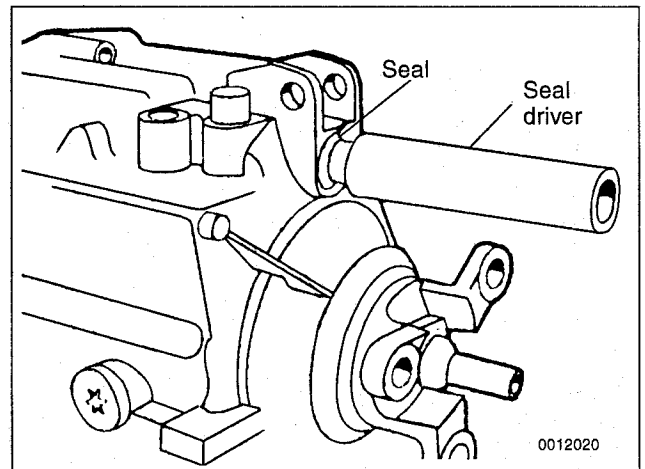

Fig. 4. Selector shaft seal being installed.
7. Coat new seal with transmission fluid. Drive new seal in flush with housing. Use BMW special seal installation tool no. 23 2 260 or equivalent and a soft-faced (plastic) hammer. See Fig. 4.